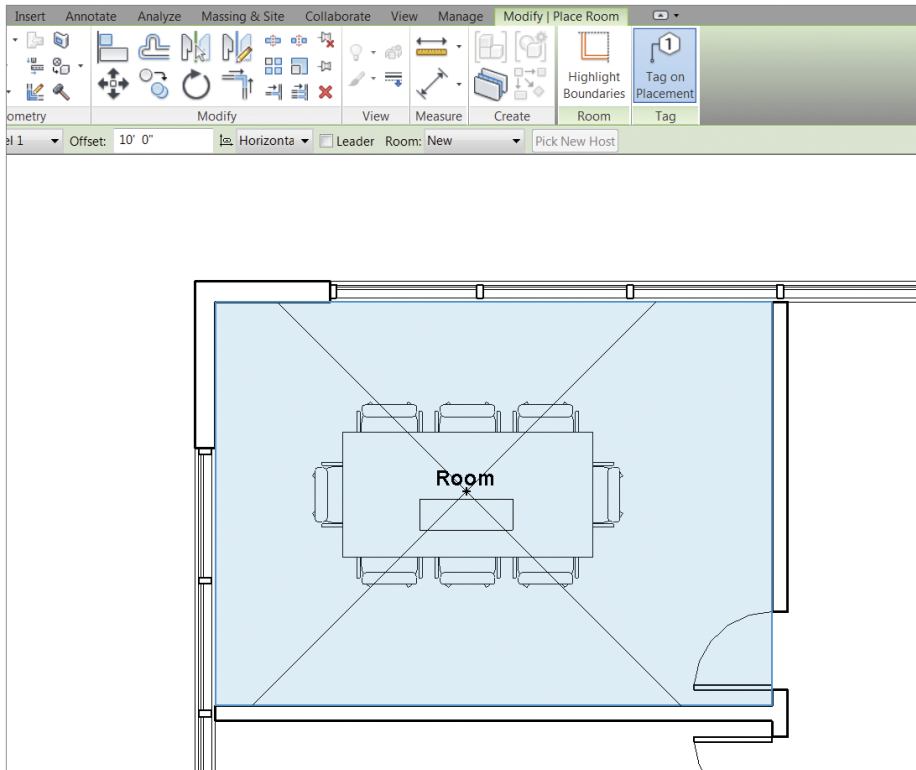

FIGURE 8.3 Adding a room and a room tag
2. Hover over an enclosed space, and notice that the room boundary highlights, indicating the space in which you're about to place a room object (Figure 8.3).